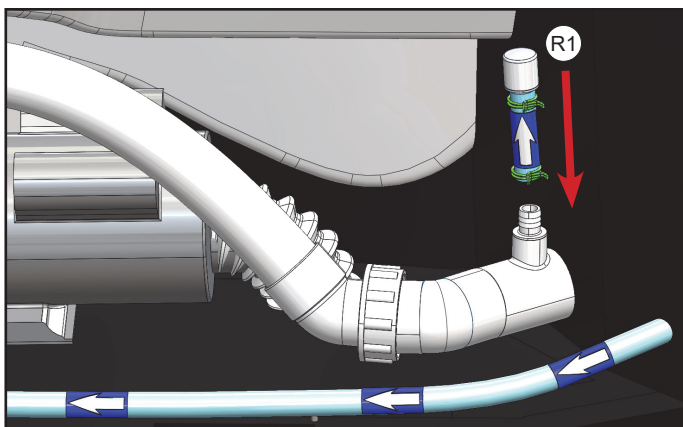

Figure 6.2
3. After removing 3/4" clear vinyl hose connection (R1), Attach it on to the 3/4" barb fitting that is located on the 2" connector that was previously connected to the heater outlet (Figure 6.2).
4. Secure 3/4" clear vinyl hose connection (R1) to 3/4" barb fitting with hose clamp (Figure 6.2).